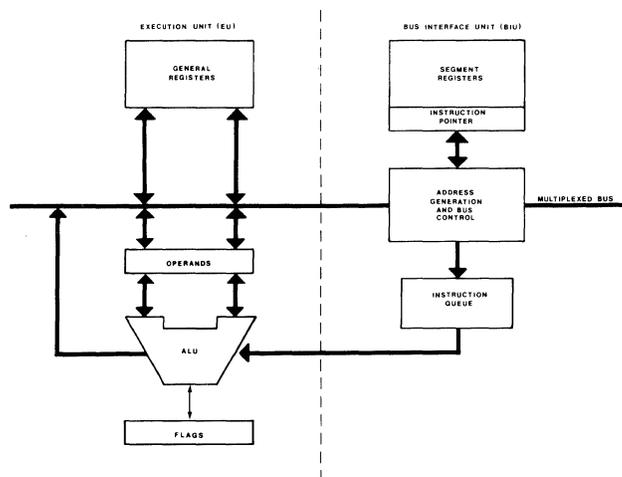

Figure 2. Execution and Bus Interface Units (EU and BIU)
**Architecture** — The 8086 CPU is internally divided into two operational sections (figure 2): the Execution Unit (EU) and the Bus Interface Unit (BIU). The BIU maintains an instruction queue, which can store up to six instruction bytes, as well as performing all bus operations for the EU. Using the instruction queue, the BIU can keep the EU supplied with prefetched instructions without monopolizing the system bus. Both the BIU and the EU can operate independently of each other and are able to extensively overlap instruction fetch with execution. This technique significantly reduces the time required to execute instructions.